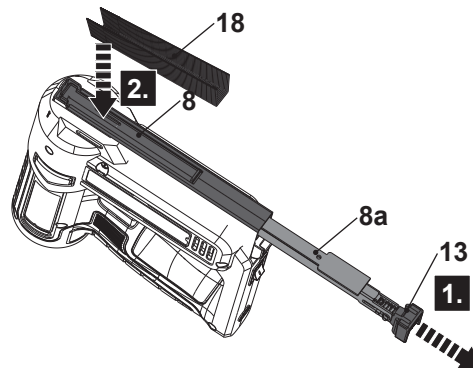

Fig. 3
3. Hold the pull lever (13) and pull the magazine slider (8a) out of the back of the stapler until it stops (Fig. 3, step 1).
4. Fill the magazine (8) with the delivered staple strip (18) (Fig. 3, step 2). Ensure that the staple tips pointing upwards.
5. After loading, slide the magazine slider (8a) back into the magazine (8) until it clicks into place.